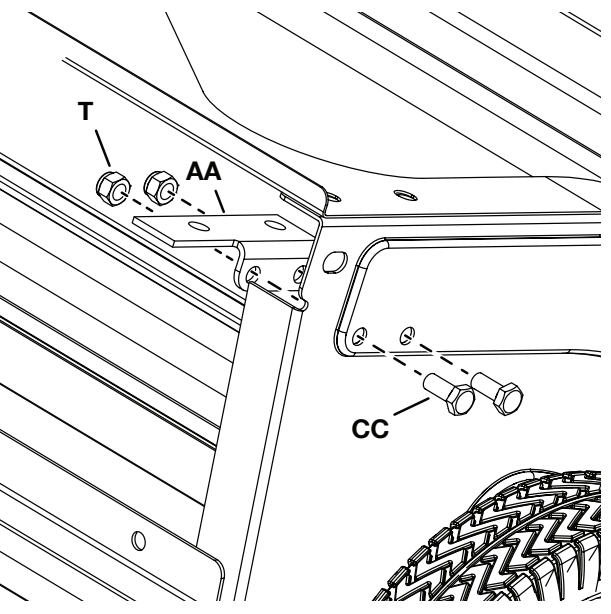

Figure 3
STEP 3: (SEE FIGURE 3)
- Attach the right bag arm bracket (AA) to the sweeper housing using 5/16-18 x 1" hex bolts (CC) and 5/16-18 nylock nuts (T).